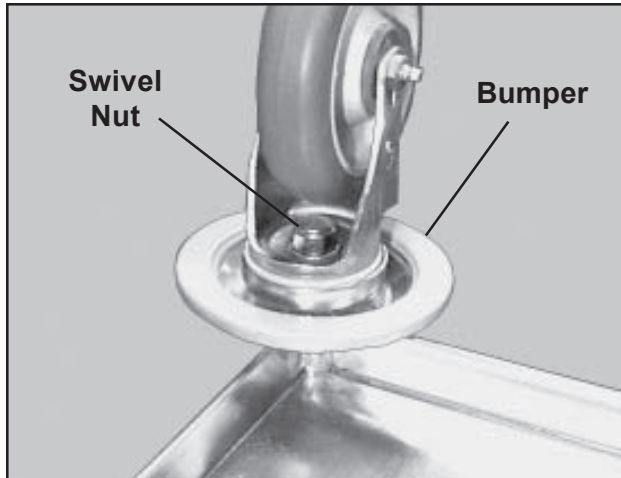

Figure 2. Wheel/Caster Assembly
2. With a 3/4 in. open-end wrench, loosen the swivel nut (Figure 2). **Note:** With the wrench on the nut, rotate the wrench and the entire wheel/caster assembly until the assembly is loose.